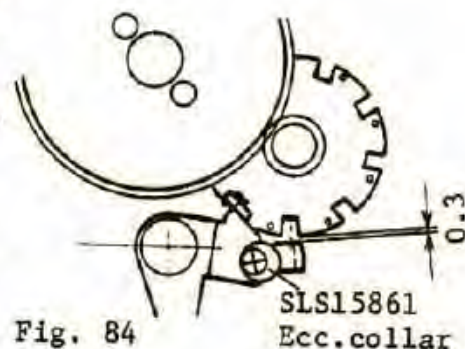

Fig. 84
- a. When releasing the shutter, the clearance between the stop lever and the dividing device should be over 0.3mm as shown in Fig. 84.